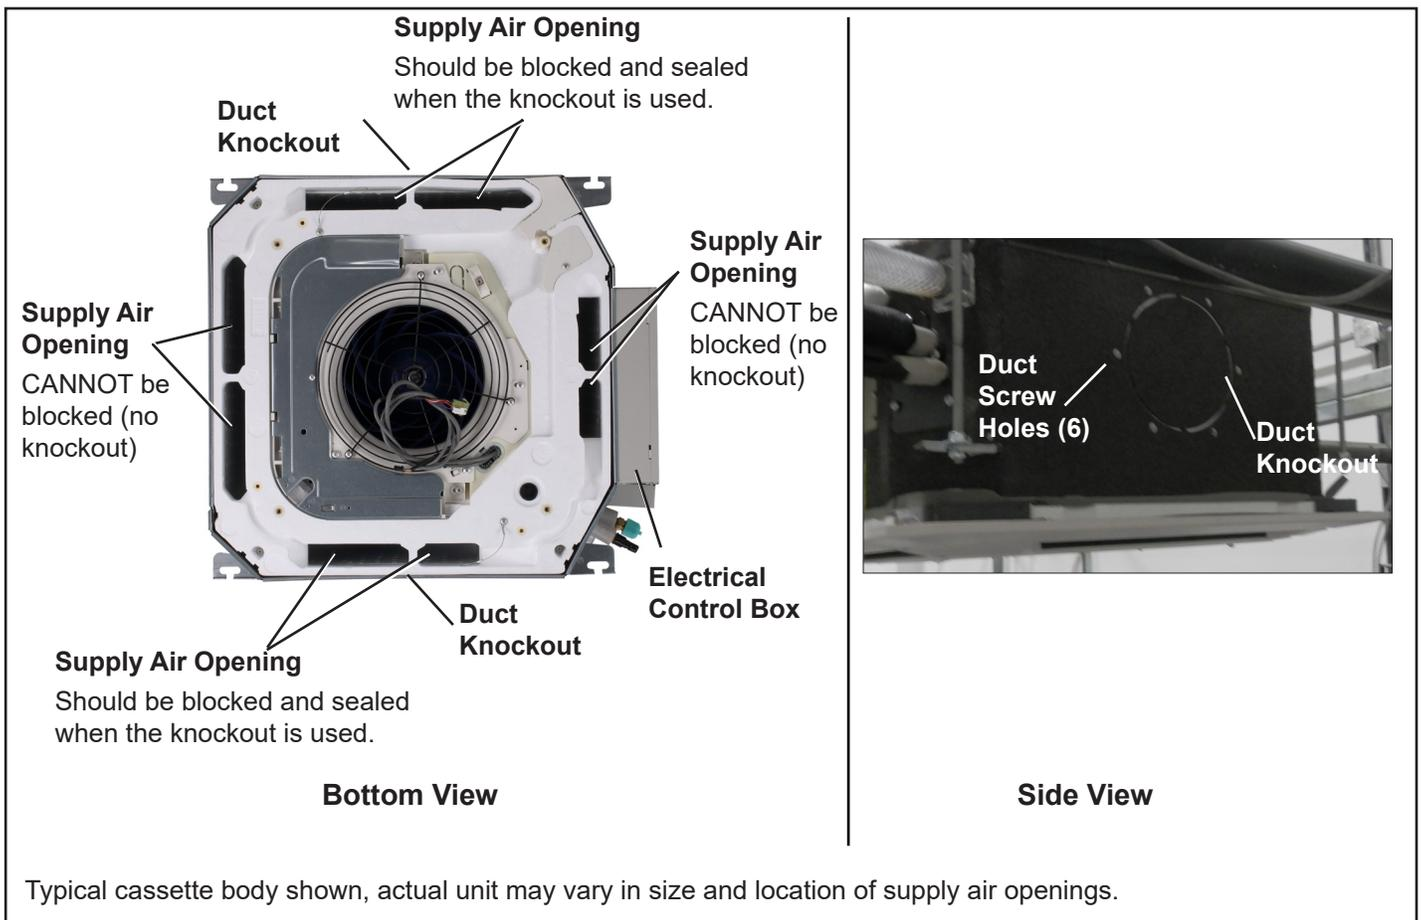

Figure 17. Typical Supply Air Configuration
2. Seal the supply air outlet on the side to which the duct will be attached. See Figure 17, Bottom View.
7. Knockout the secondary supply duct opening. See Figure 17, Side View.
9. Connect the secondary supply duct to the cassette body using the eight screw holes shown in Figure 17, Side View.